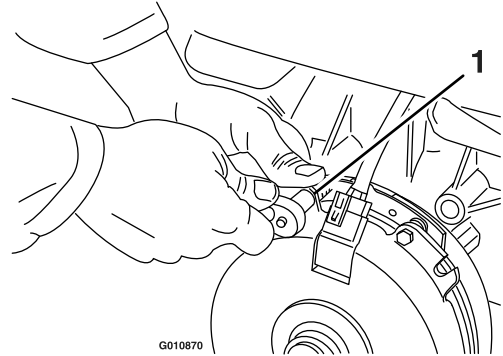

Figure 67
- A. Loosen both brake mounting bolts 1/2 to 1 full turn as shown in Figure 67.